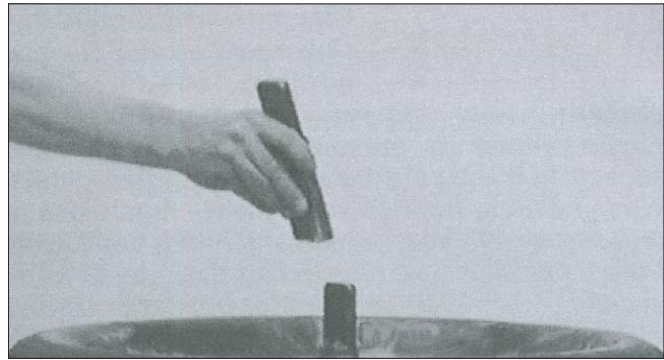

Figure 19- Optional Short Center Post Extension
**3.** For mounting and demounting tires on wheels from 10" to 14" wide, use the optional short center post extension (part #8108311). Slip the extension over the center post key (figure 19).